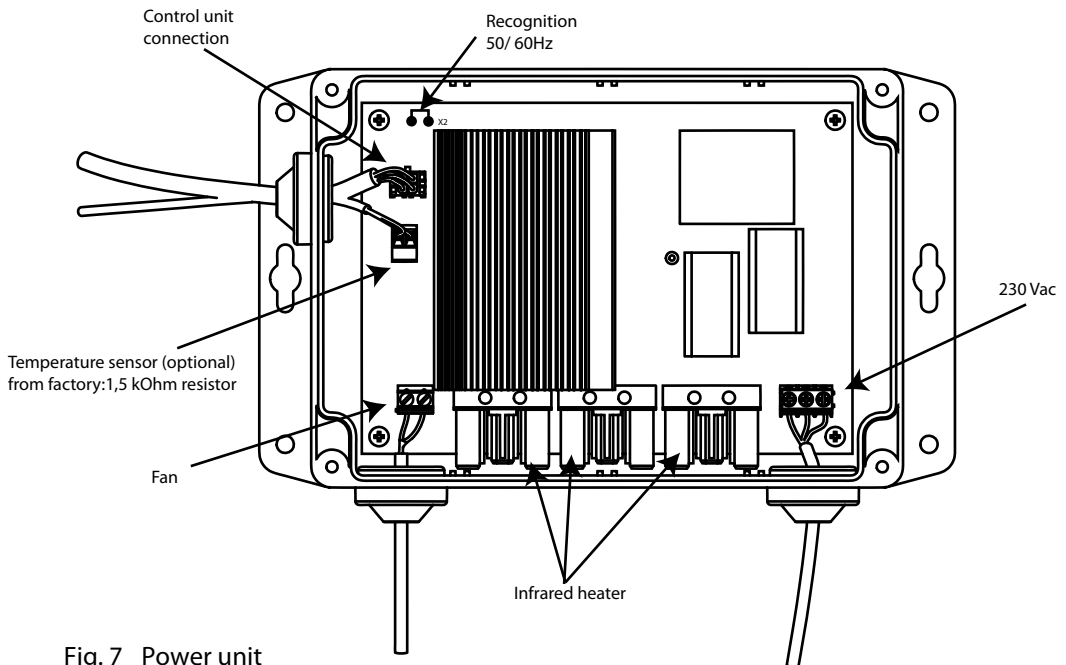

Fig. 7 Power unit
1. Open the power unit housing by unscrewing the four screws on the front and remove the housing cover (see Fig. 7).
7. Guide the control unit data line through the corresponding bushing and connect it according to Fig. 7 & 8.